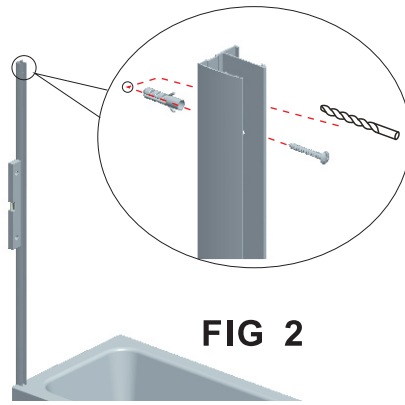

FIG 2
2. Plumb the wall profiles using the vertical element of the spirit level. Mark 3 holes, drill with 6mm masonry bit and fit wall plugs. Using the 3 screw fix wall profile to wall. **Fig 2.**